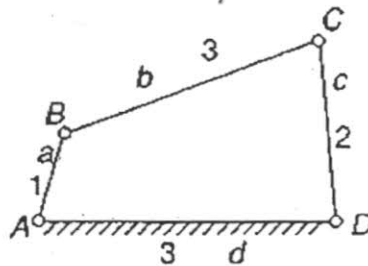

Fig. Q2(b)
b) Find the maximum and minimum transmission angles for the mechanism shown in Figure Q2(b).